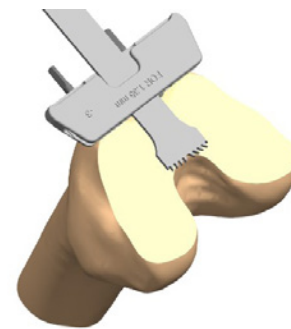

Figure 10
- Resect the distal femur (Figure 10) then remove the Distal Femoral Cutting Block.